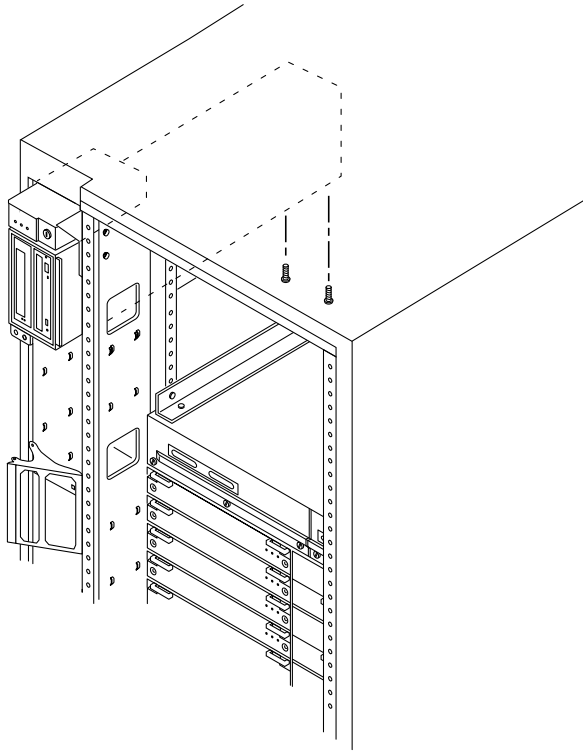

FIGURE E-8 Removing the Two Screws that Attach the media tray to the Flange
- 6. Remove the two screws that attach the media tray to the flange on the side of the fan tray shelf (FIGURE E-8).**
- 7. Replace the two screws that attach the media tray to the flange on the bottom of the fan tray shelf (FIGURE E-8).**